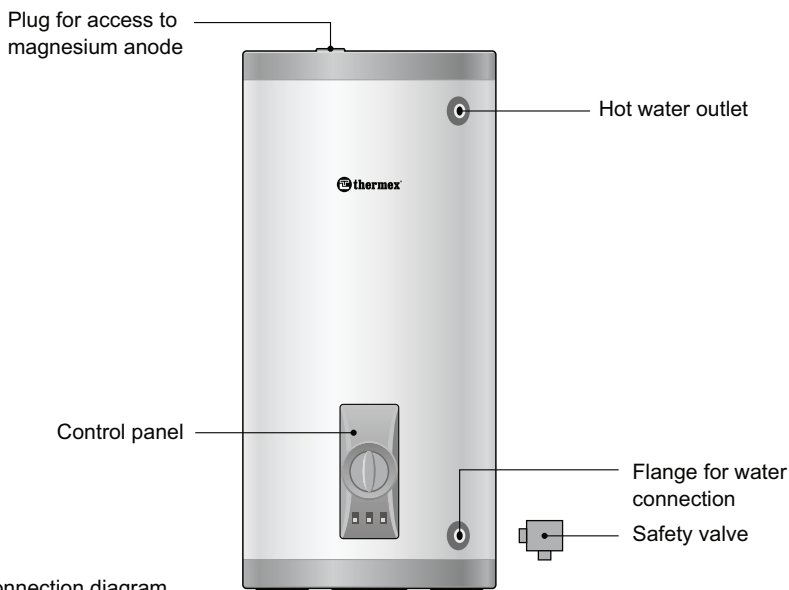

Fig. 1. Connection diagram
4.1. The Heater consists of two steel tanks, which are heat-insulated by environmentally-safe foamed polyurethane, and two threaded nipples for cold water supply (blue ring) and hot water discharge (red ring) (**Fig. 1**).
6.1.1. Mount safety valve on flange (Fig. 1). Ensure that drain hole of the valve is directed downward; safety valve is not over-tighten and fastened in proper position. Connect cold and hot water lines according to Fig 1; before connection ensure that no foreign objects are in supply line. It is recommended to install shut-off valve on supply line before safety valve.